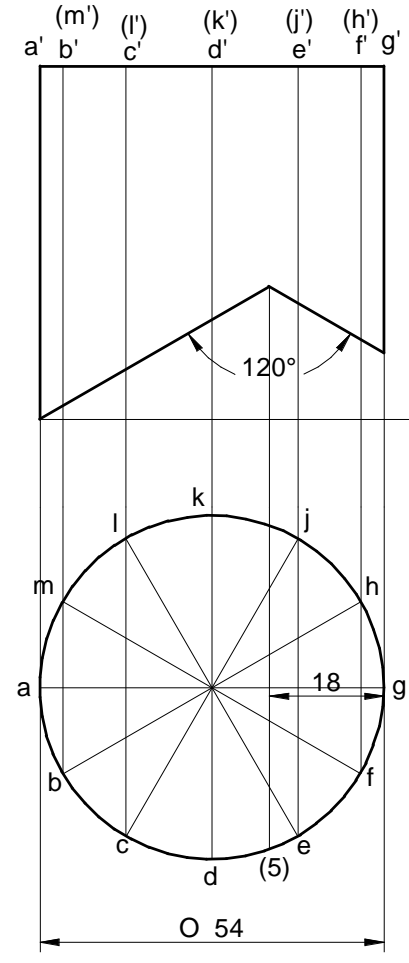

Fig 10
35. Fig.10 shows the front view of a model of a steel chimney of diameter 54 mm made from a flat thin sheet metal fitted over an inclined plane roof. Develop the portion of the chimney.